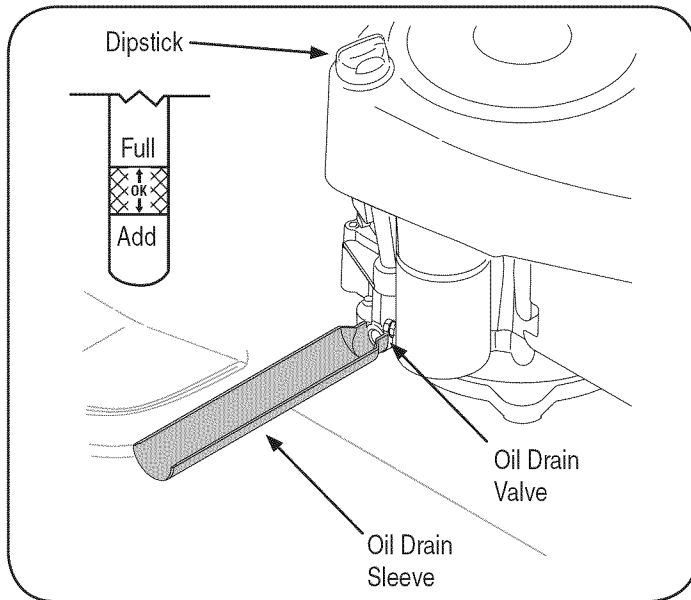

Figure 9
5. Remove the dipstick and check the oil level. It should be at the Full mark on the dipstick. See Figure 9.
2. Remove the oil fill cap/dipstick from the oil fill tube. See Figure 9.